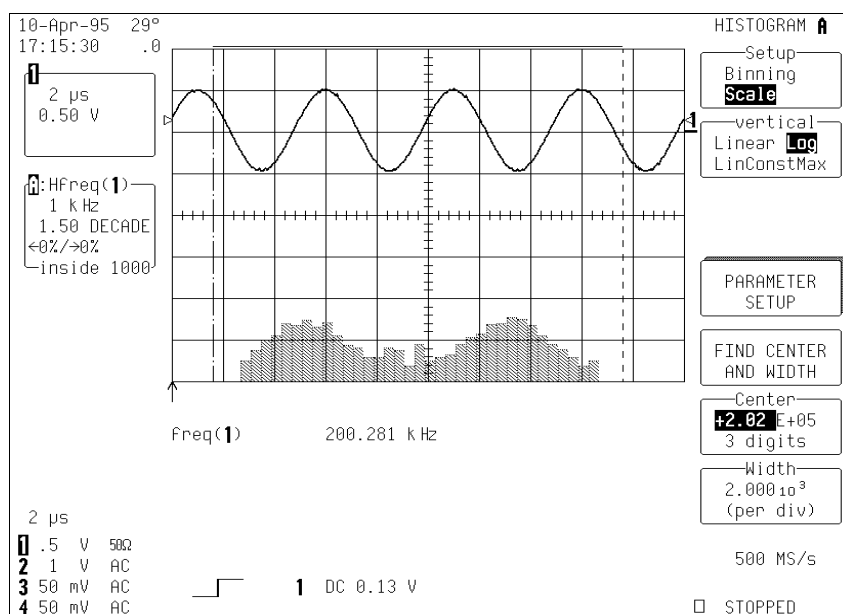

Figure 2.13
2. “Log” sets the vertical scale as logarithmic (*Fig. 2.13*). Because a value of ‘0’ cannot be specified logarithmically, no baseline is provided.